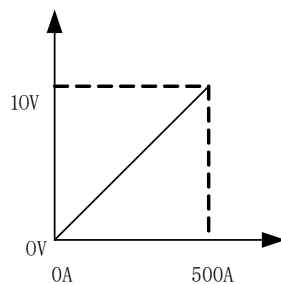

Figure 4-12 Corresponding relationship of given current
1. The corresponding relationship of given current is shown in Figures 4-12;